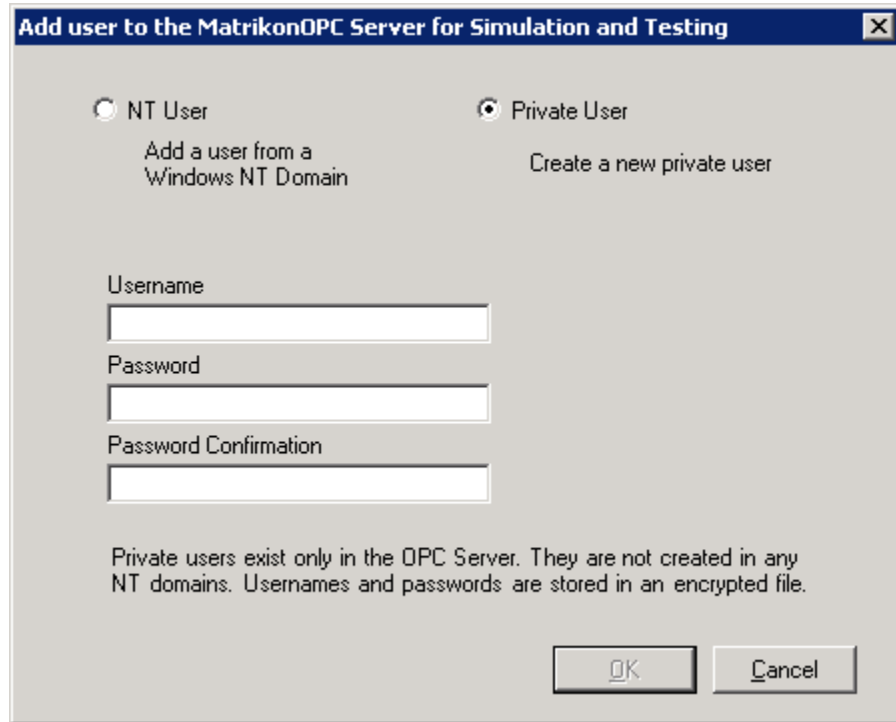

Figure 67 - Add User Window (Private)
3. Select the **Private User** option button (Figure 67).